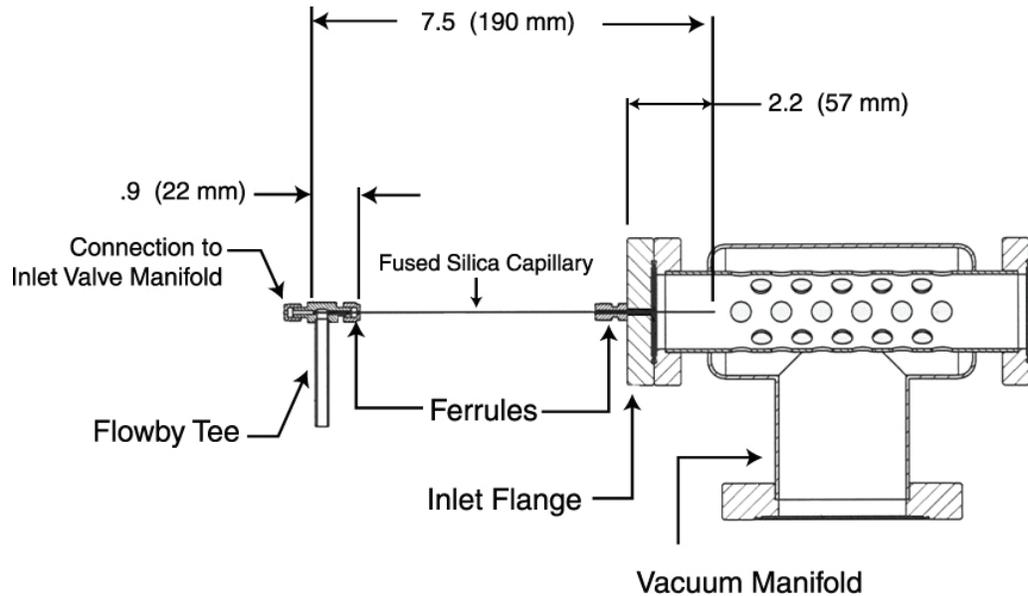

Figure 4-8.
The drawing in Figure 4-8 is a representation of the capillary configuration and does not depict the capillary when in use.
3. Loosen the nut holding the ferrule on the inlet flange to release the ferrule (Figure 4-8). Thread the capillary through the ferrule.